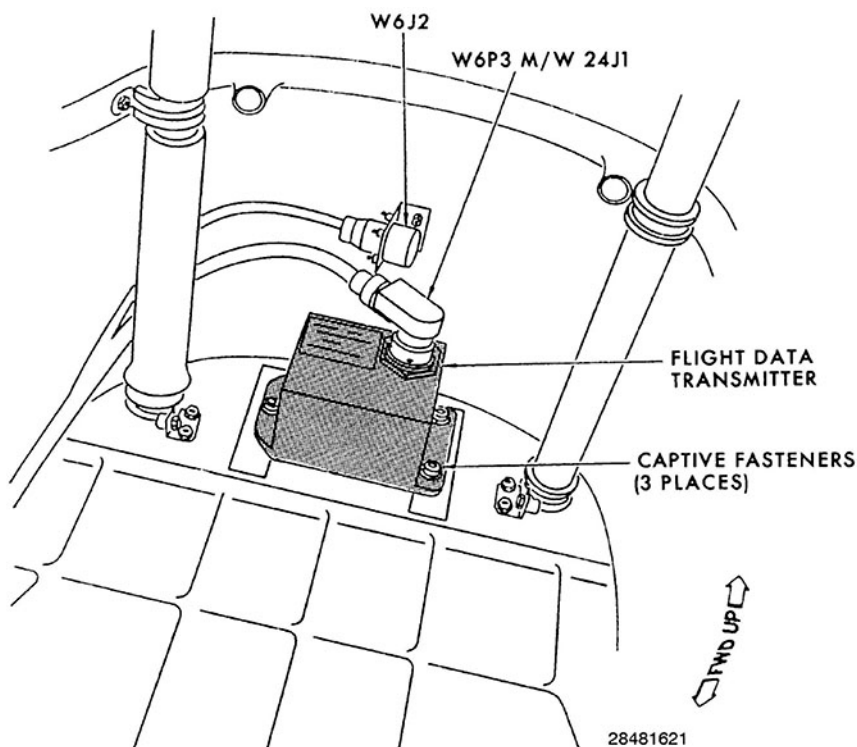

Figure 2-30. Guided missile flight data transmitter.
The FDT is located in the payload bay at the top of the aft INE bulkhead (fig. 2-30). The unit contains three identical spring-restrained rate gyros, one accelerometer, and two circuit cards. The rate gyros measure angular acceleration in degrees per second in the X, Y, and Z-axes, and the accelerometer measures linear acceleration in gravitational forces (G) in the Z-axis. The function of these sensors is to *reduce* the correction signal as the missile approaches the proper altitude in relation to the flight command.